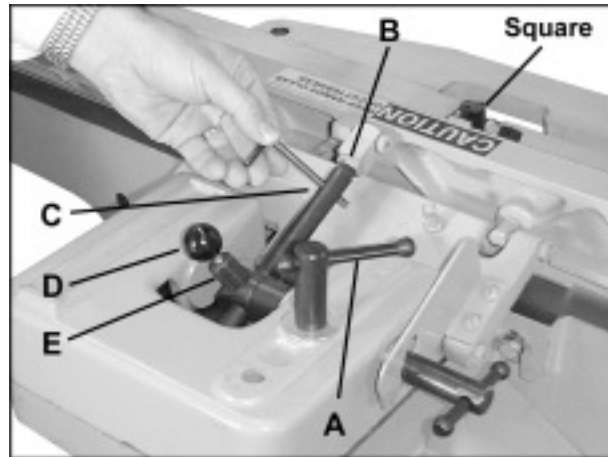
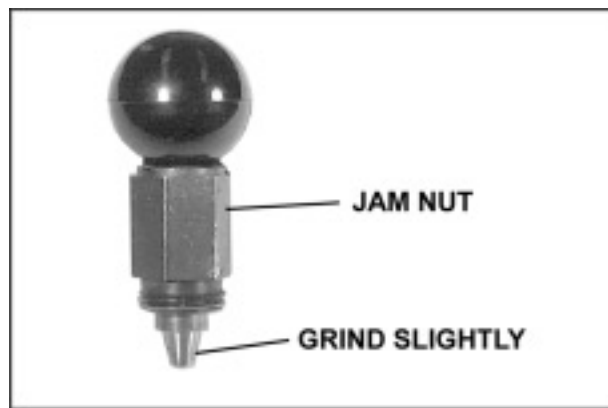

FIGURE 11
FIGURE 12
1. Loosen the lock screw (A), as shown in Figure 11, and adjust the fence to the 90 degree position. (NOTE: There will be some play in the fence when it is unlocked. All play must be removed by tilting the fence toward or away from the table while locking the lock screw. Always remove the backlash by tilting the fence in the same direction while tightening.)
3. Loosen lock nut (B) and insert a tool (such as a hex head wrench) into the hole in the tilt rod (C).
4. Turn tilt rod clockwise or counterclockwise until the fence lies flush against the square. Tighten lock nut (B).
5. Check your adjustment by loosening lock screw (A) and pulling up plunger (D), allowing fence to tilt out of 90 degrees. Then return it to 90 degree position.
6. Should the fence fail to return to 90 degrees and play is evident in the fence, remove the plunger mechanism (D) by loosening the jam nut (E) with a 5/8" wrench. Inspect the conical portion of the plunger assembly. If the tilt rod shows signs of wear or scarring, grind the conical portion of plunger, Figure 12, until it will fully engage in the annular groove in the tilt rod. Replace plunger assembly and tighten jam nut.